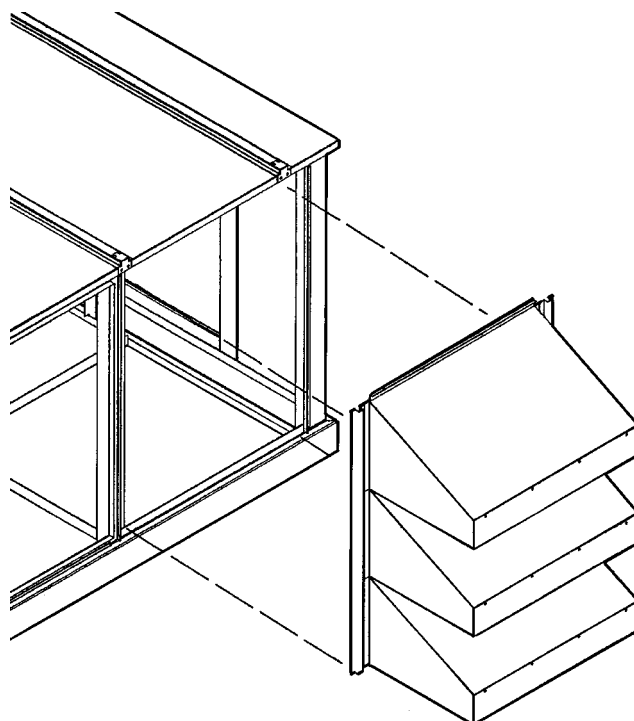

Fig. 14 — Economizer Hood Installation
8. Place channel panels on the hood flanges, using the middle 3 holes. If using barometric relief or power exhaust, use the channel clip in place of the previously discarded channel panel, attaching it to the left side of the economizer hoods (left side when facing hoods). Secure channel panels and/or channel clip to the hoods using 6 of the nuts from the fastener package. See Fig. 14 and place economizer hood assembly over outdoor-air opening.